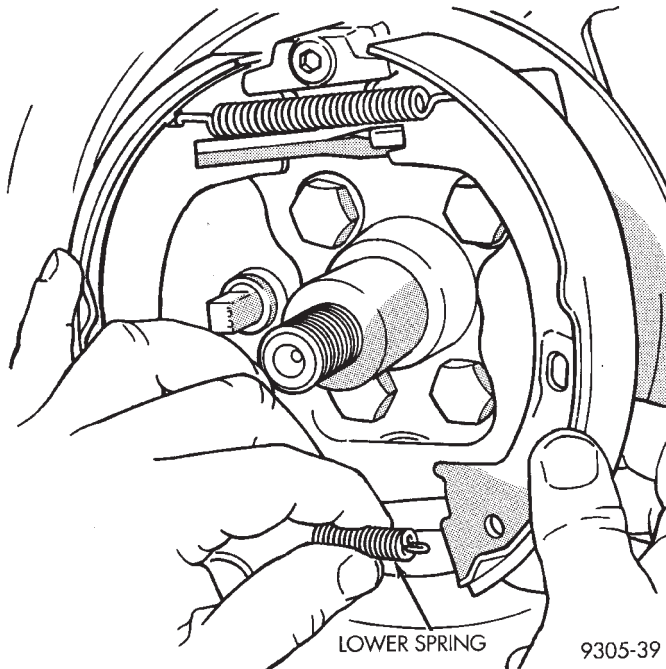
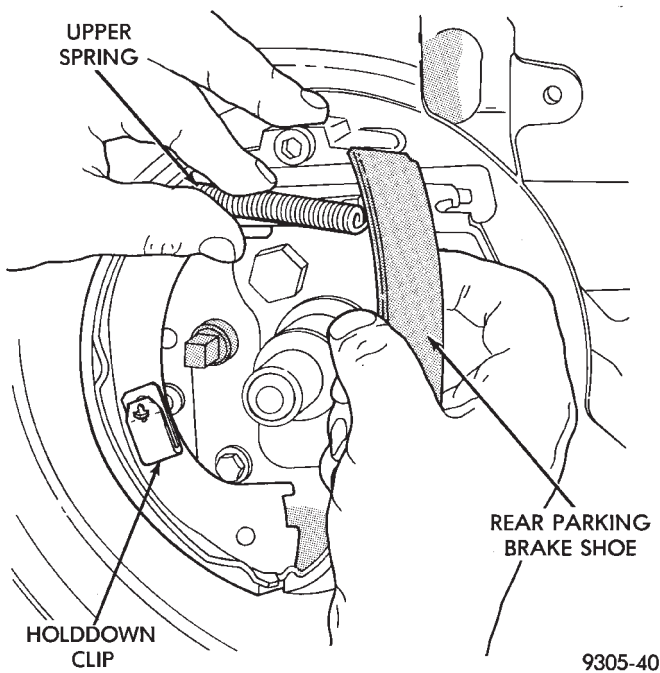

Fig. 170 Brake Shoe Lower Return Spring
Fig. 171 Brake Shoe and Upper Spring
- (9) Remove the lower return spring (Fig. 170) between the park brake shoes.
- (10) Pull the rear park brake shoe away from the caliper adapter (Fig. 171). Remove the upper return spring (Fig. 171) from between the park brake shoes.
- (2) Install the rear park brake shoe and the park brake shoe upper return spring (Fig. 171).
- (3) Pull rear brake shoe over anchor block until properly located on adapter.
- (4) Install the park brake lower return spring (Fig. 170).